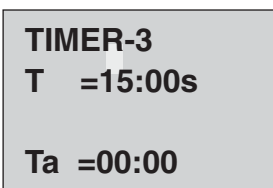

Fig. 8
7. Press arrow up/down keys ▲ or ▼ to select the next parameter to change (Timer-3). Repeat steps 4 and 5 to change the Timer-3 parameters. See figure 8.